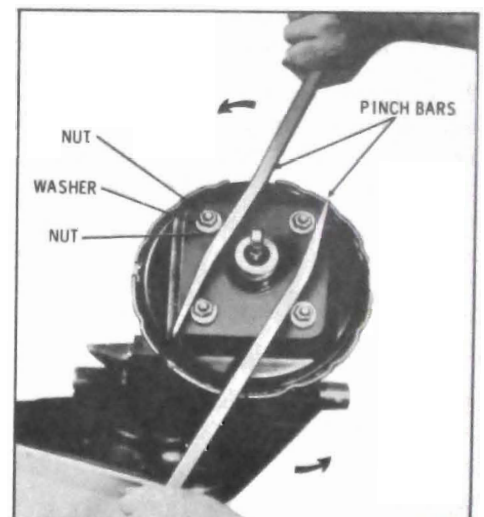

Figure 9-40—Separation of Front and Rear Housing
2. Remove rear retainer and boot and then reinstall nuts on rear housing studs. Scribe a line between front and rear housings. Using pry bars as shown in Figure 9-40, rotate rear housing so that cutouts in rear housing line up with tangs of front housing. **CAUTION: Loosen rear housing carefully as it is spring-loaded.**